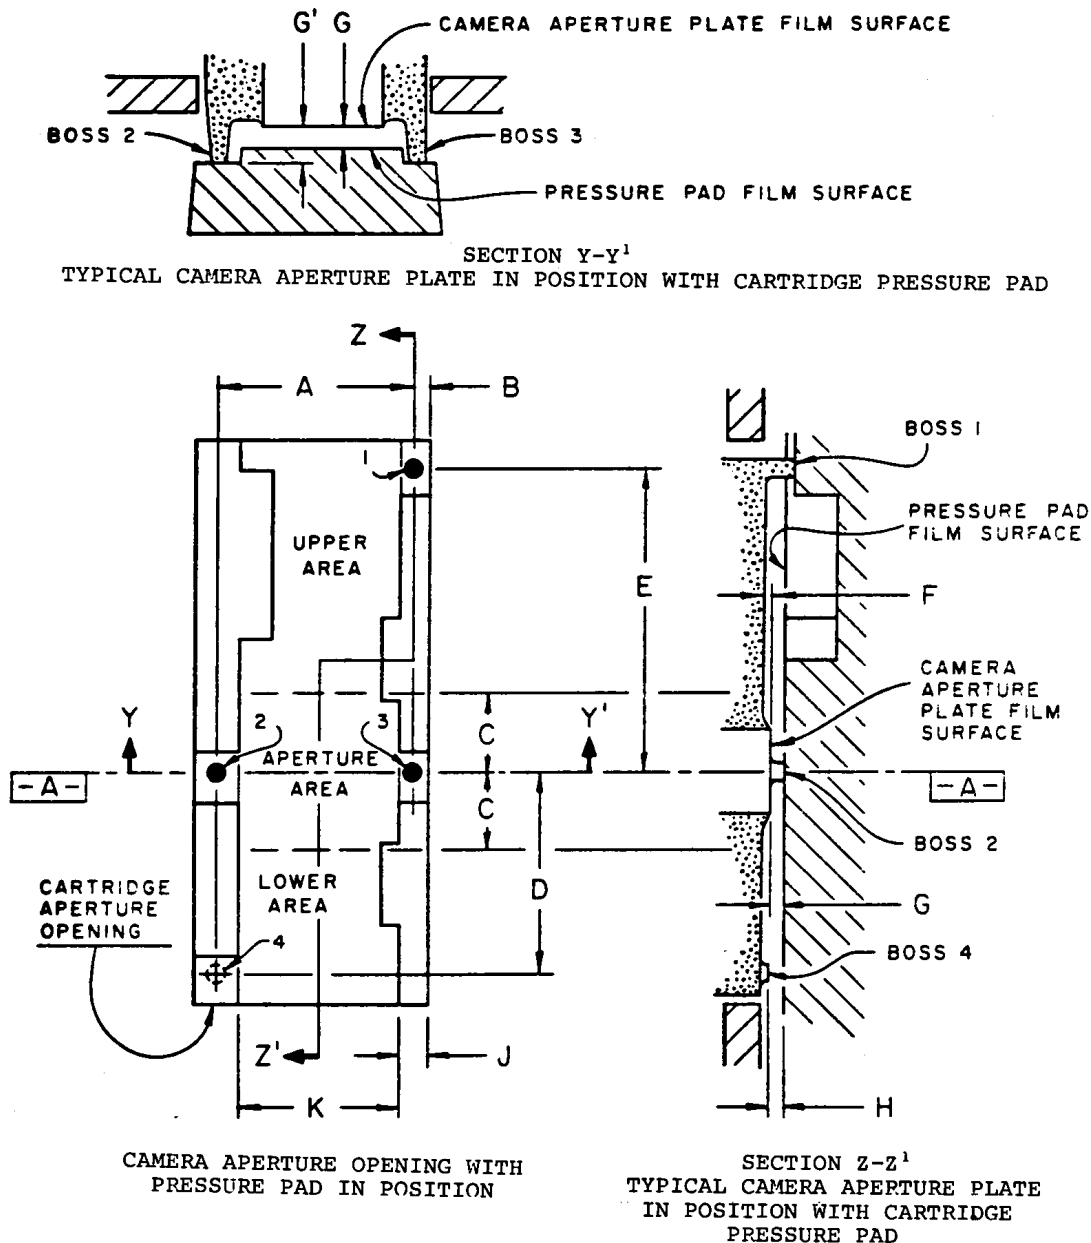

Figure 1 – Camera aperture
**3.1** The dimensions shall be as given in figure 1 and tables 1 and 2 and shall apply to a cartridge that is fully assembled but does not contain film.
**3.3** Dimensions relative to the surface of the pressure pad are measured from a plane established through surfaces 1, 2, and 3, as defined by 0.060-in (1.52-mm) circles dimensionally centered (see figure 1).
NOTE – Table dimensions are measured from the zero plane defined by surfaces 1, 2, and 3 (see figure 1 and notes 3 and 4).